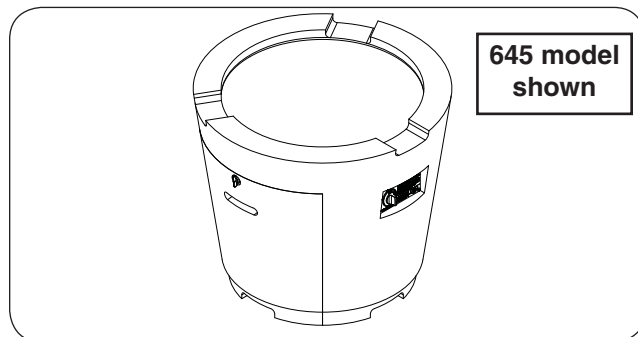

Fig. 22-1 Place base
1. **CAREFULLY** place the base in an appropriate location (see Fig. 22-1, and refer back to the LOCATION section if needed).